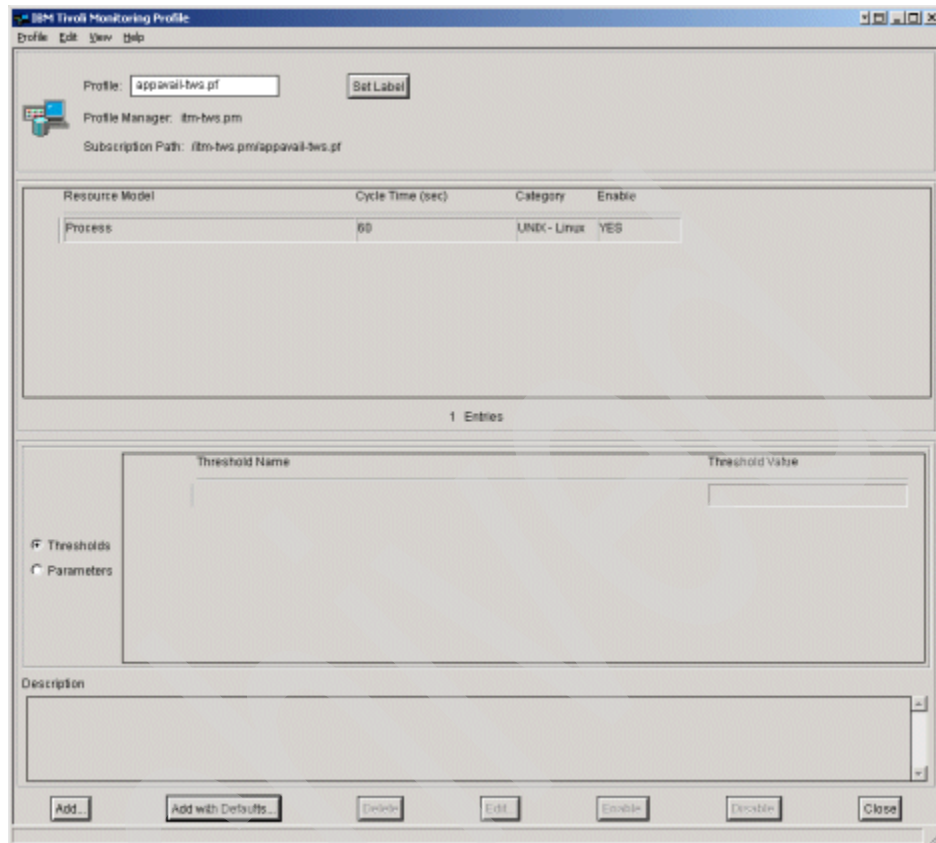

Figure 9-94 Process resource model added to appavail-tws.pf profile
17. Select **Add & Close**. You are returned to the Tivoli Monitoring Profile window for the appavail-tws.pf profile, with the Process resource model added to the Resource Model list, as shown in Figure 9-94 on page 503.